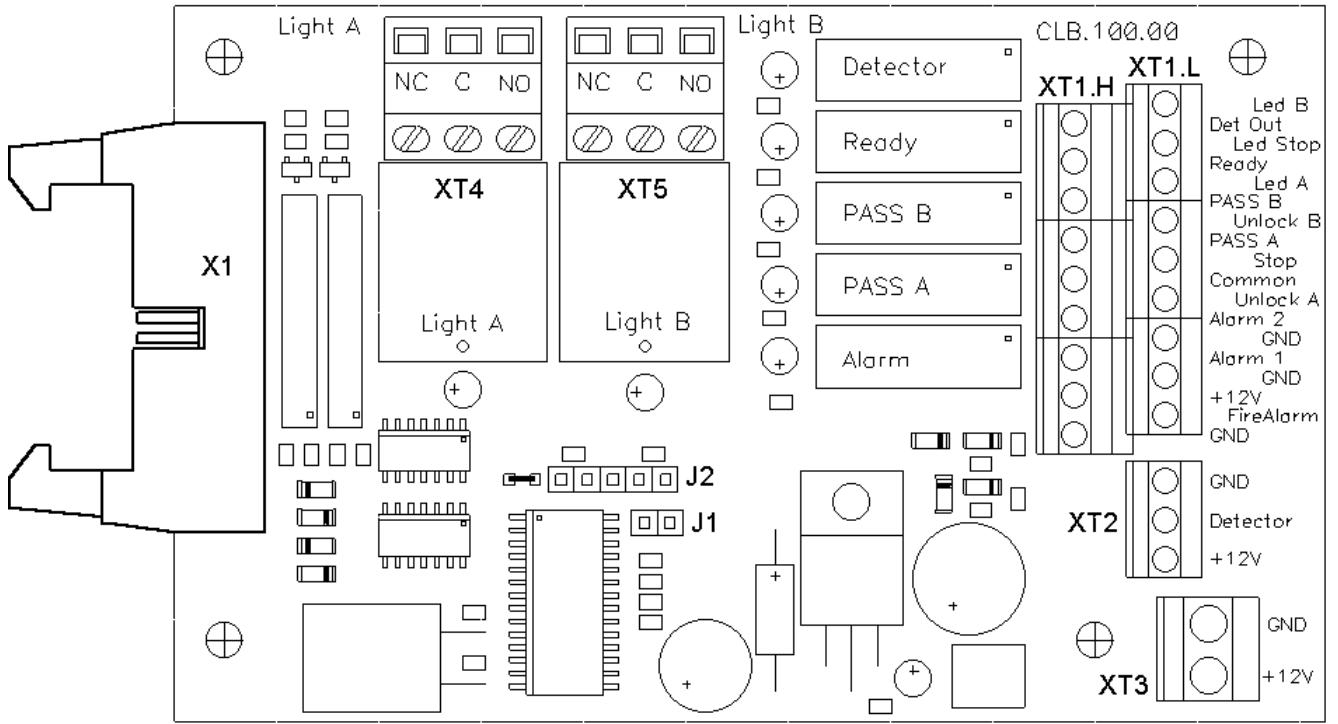
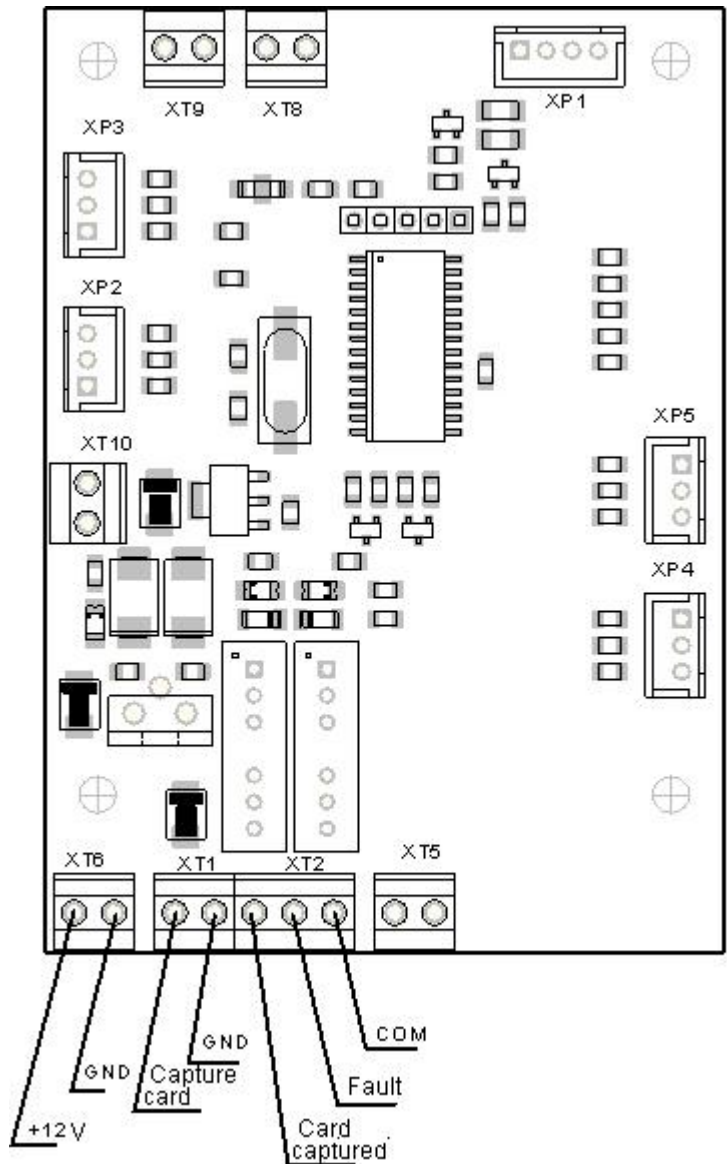
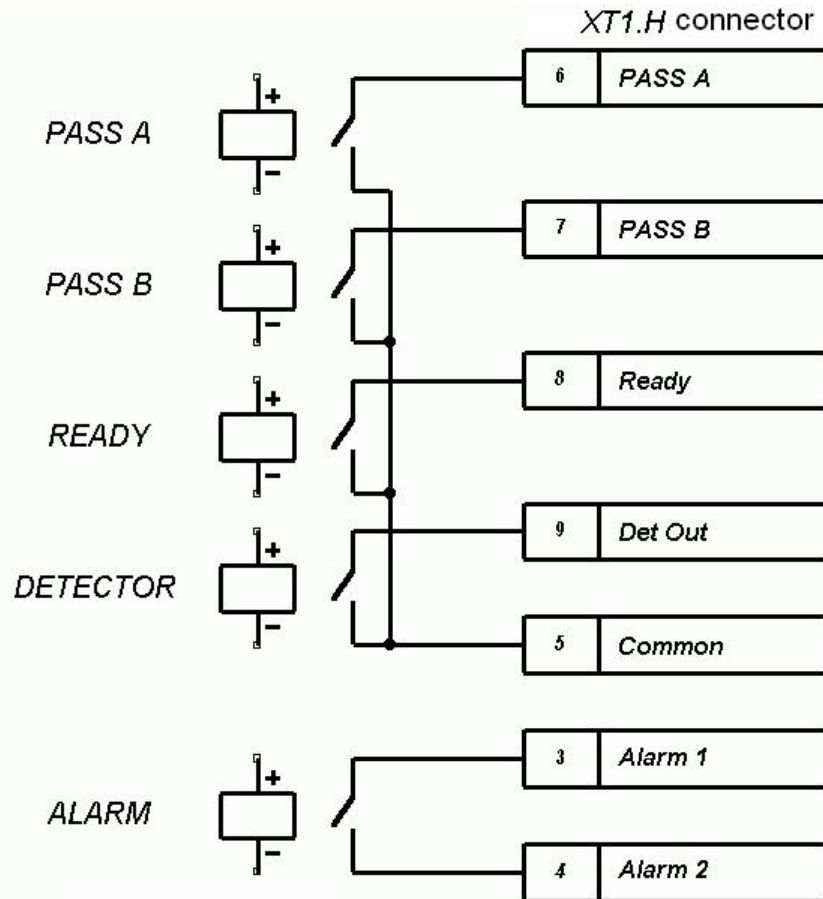

Figure 3.1 – The CLB
Figure 3.2 – PA-450 control board of the card capture reader
Figure 4.2 – Output cascades for PASS A, PASS B, Ready, Det Out and Alarm.
6.2.3. Inside the turnstile housing there is a bracket with a CLB mounted on it with terminal clamps for connection of external devices. The RC panel, ACS outputs, wireless remote control device (when used), intrusion detector (optional) and emergency unblocking device are connected to the CLB. Power supply unit connection lines, card capture reader mechanism control lines (card capture reader control board is located on the card capture reader mechanism), signal lines of card readers are connected to the terminal clamps for connection of external devices. External devices are connected in accordance with a connection layout (Ref. Fig. A.1 Appendix A). Layout of electrical connections inside the turnstile housing is shown in Figure A.2 Appendix A. The CLB is shown in Figure 3.1. Control board of the card capture reader is shown in Figure 3.2.
6.2.4. The remote control panel is designed as a small desktop device with a shock-proof ABS plastic case and is intended for setting and indicating operating modes when the turnstile is operated manually. The RC panel is connected to the CLB with a flexible multicore cable (17) via “XT1.L” connector block (Ref. Fig. 3.1).
The RC panel orientation towards the turnstile (if an operator’s terminal is placed at the backside of the turnstile housing) can be changed by swapping wires of the RC panel connected to the contacts: *Unlock A* and *Unlock B* respectively, as well as *Led A* and *Led B* respectively (Figures 3.1 and A.1 Appendix A).
6.2.5. The CLB (Ref. Fig. 3.1) houses:
6.3.7 Pin assignment of the CLB connector blocks are given in Figure 3.1 and on a label located on the inner surface of the turnstile cover.
not supplied to the relay coil). Opening/closing of PASS A, PASS B, Ready, Detector and Alarm relays is indicated by lighting/going out of red indicators located near the corresponding relays (Ref. Fig. 3.1). The output cascades for "PASS A", "PASS B", "Ready", "Det Out" and "Alarm" are the relay contacts (Ref. Fig. 4.2) with the following signal characteristics:
6.5.2 The control mode is set by the jumper on a J1 connector (the J1 connector location is shown in Figure 3.1 and on the label located on the inner surface of the turnstile cover: the jumper is installed – the pulse control mode, the jumper is not installed – the potential control mode). The jumper is installed at delivery.
6.9.2 The intrusion detector is connected to the “XT2” connector block, and the siren is connected to the “XT1.H” connector block of the CLB according to the connection layout (Fig. A.1 Appendix A and Fig. 3.1). The intrusion detector should have normally closed contacts.
A signal on current status of the intrusion detector is constantly transmitted to the “Det Out” and “Common” contacts of the CLB “XT1.H” connector block (Fig. 3.1).
6.9.3 The emergency unblocking device is connected to the “XT1.L” connector block of the CLB in accordance with the connection layout (Figure A.1 Appendix A and Figure 3.1). If the “Fire Alarm” input is not used, it is necessary to install a jumper between the contacts “Fire Alarm” and “GND”. This jumper is installed at delivery.